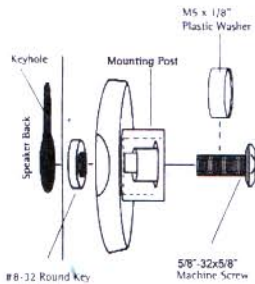

Figure 4
8. Loosely pre-assemble the mounting post with the 5/8" x 32x5/8" machine screw and key hole nut (Figure 4).
10. Put tension on the assembly by gently pulling back on the speaker mount post while tightening the 5/8" x 32x5/8" machine screw (Figure 4).
12. If the post does not tighten securely against the housing, it will be necessary to use the M5 x 1/8" plastic washer as a spacer under the head of the 8-32 x 5/8" machine screw (Figure 4).